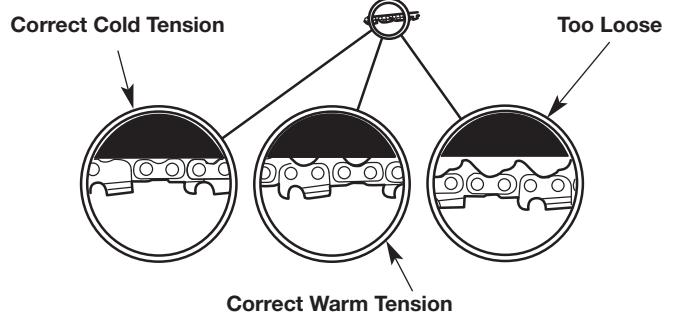

Fig. 25
- The desired chain tension depends upon the temperature of the saw chain (Fig. 25).
- Cold Chain Tensioning - The saw chain should fit snugly against the underside of the guide bar. There should be no sag (Fig. 25).
- Warm Chain Tensioning - The saw chain will expand as it heats up during operation. The drive links should hang approximately 1/16 inch (1.3 mm) out of the guide bar groove (Fig. 25).